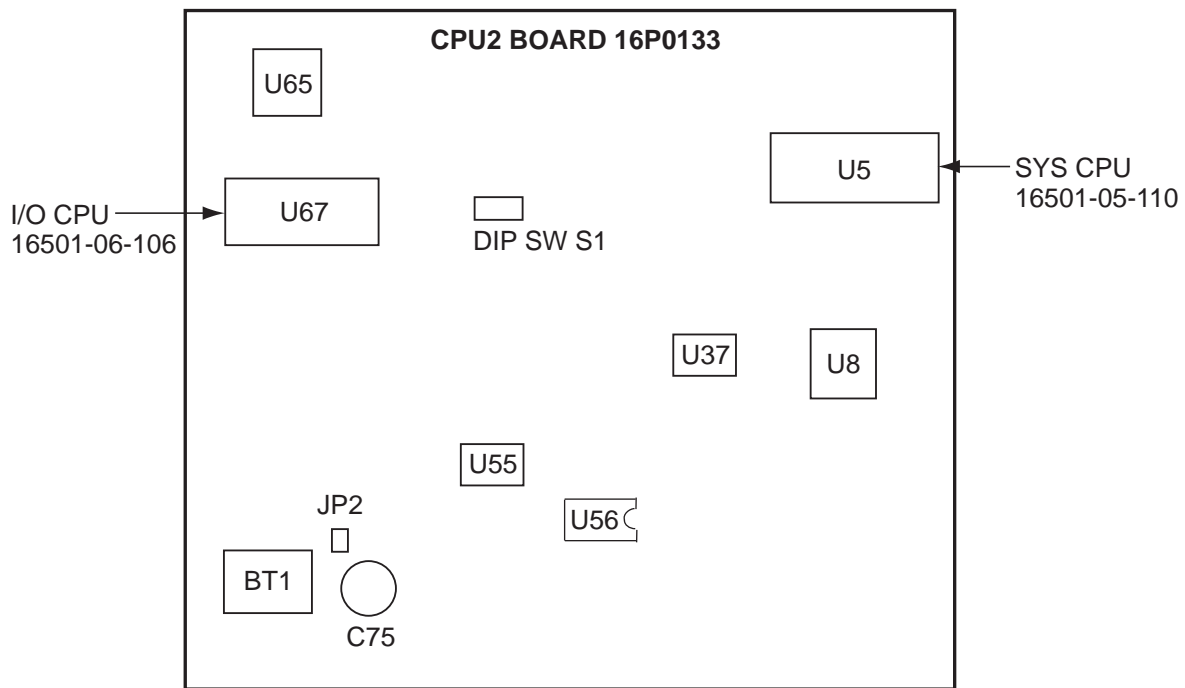

Figure 17 CPU2 Board
5. Replace the ROMs (I/O CPU and SYS CPU) on the CPU2 Board. See Figure 17 for location. Mount the CPU2 Board.